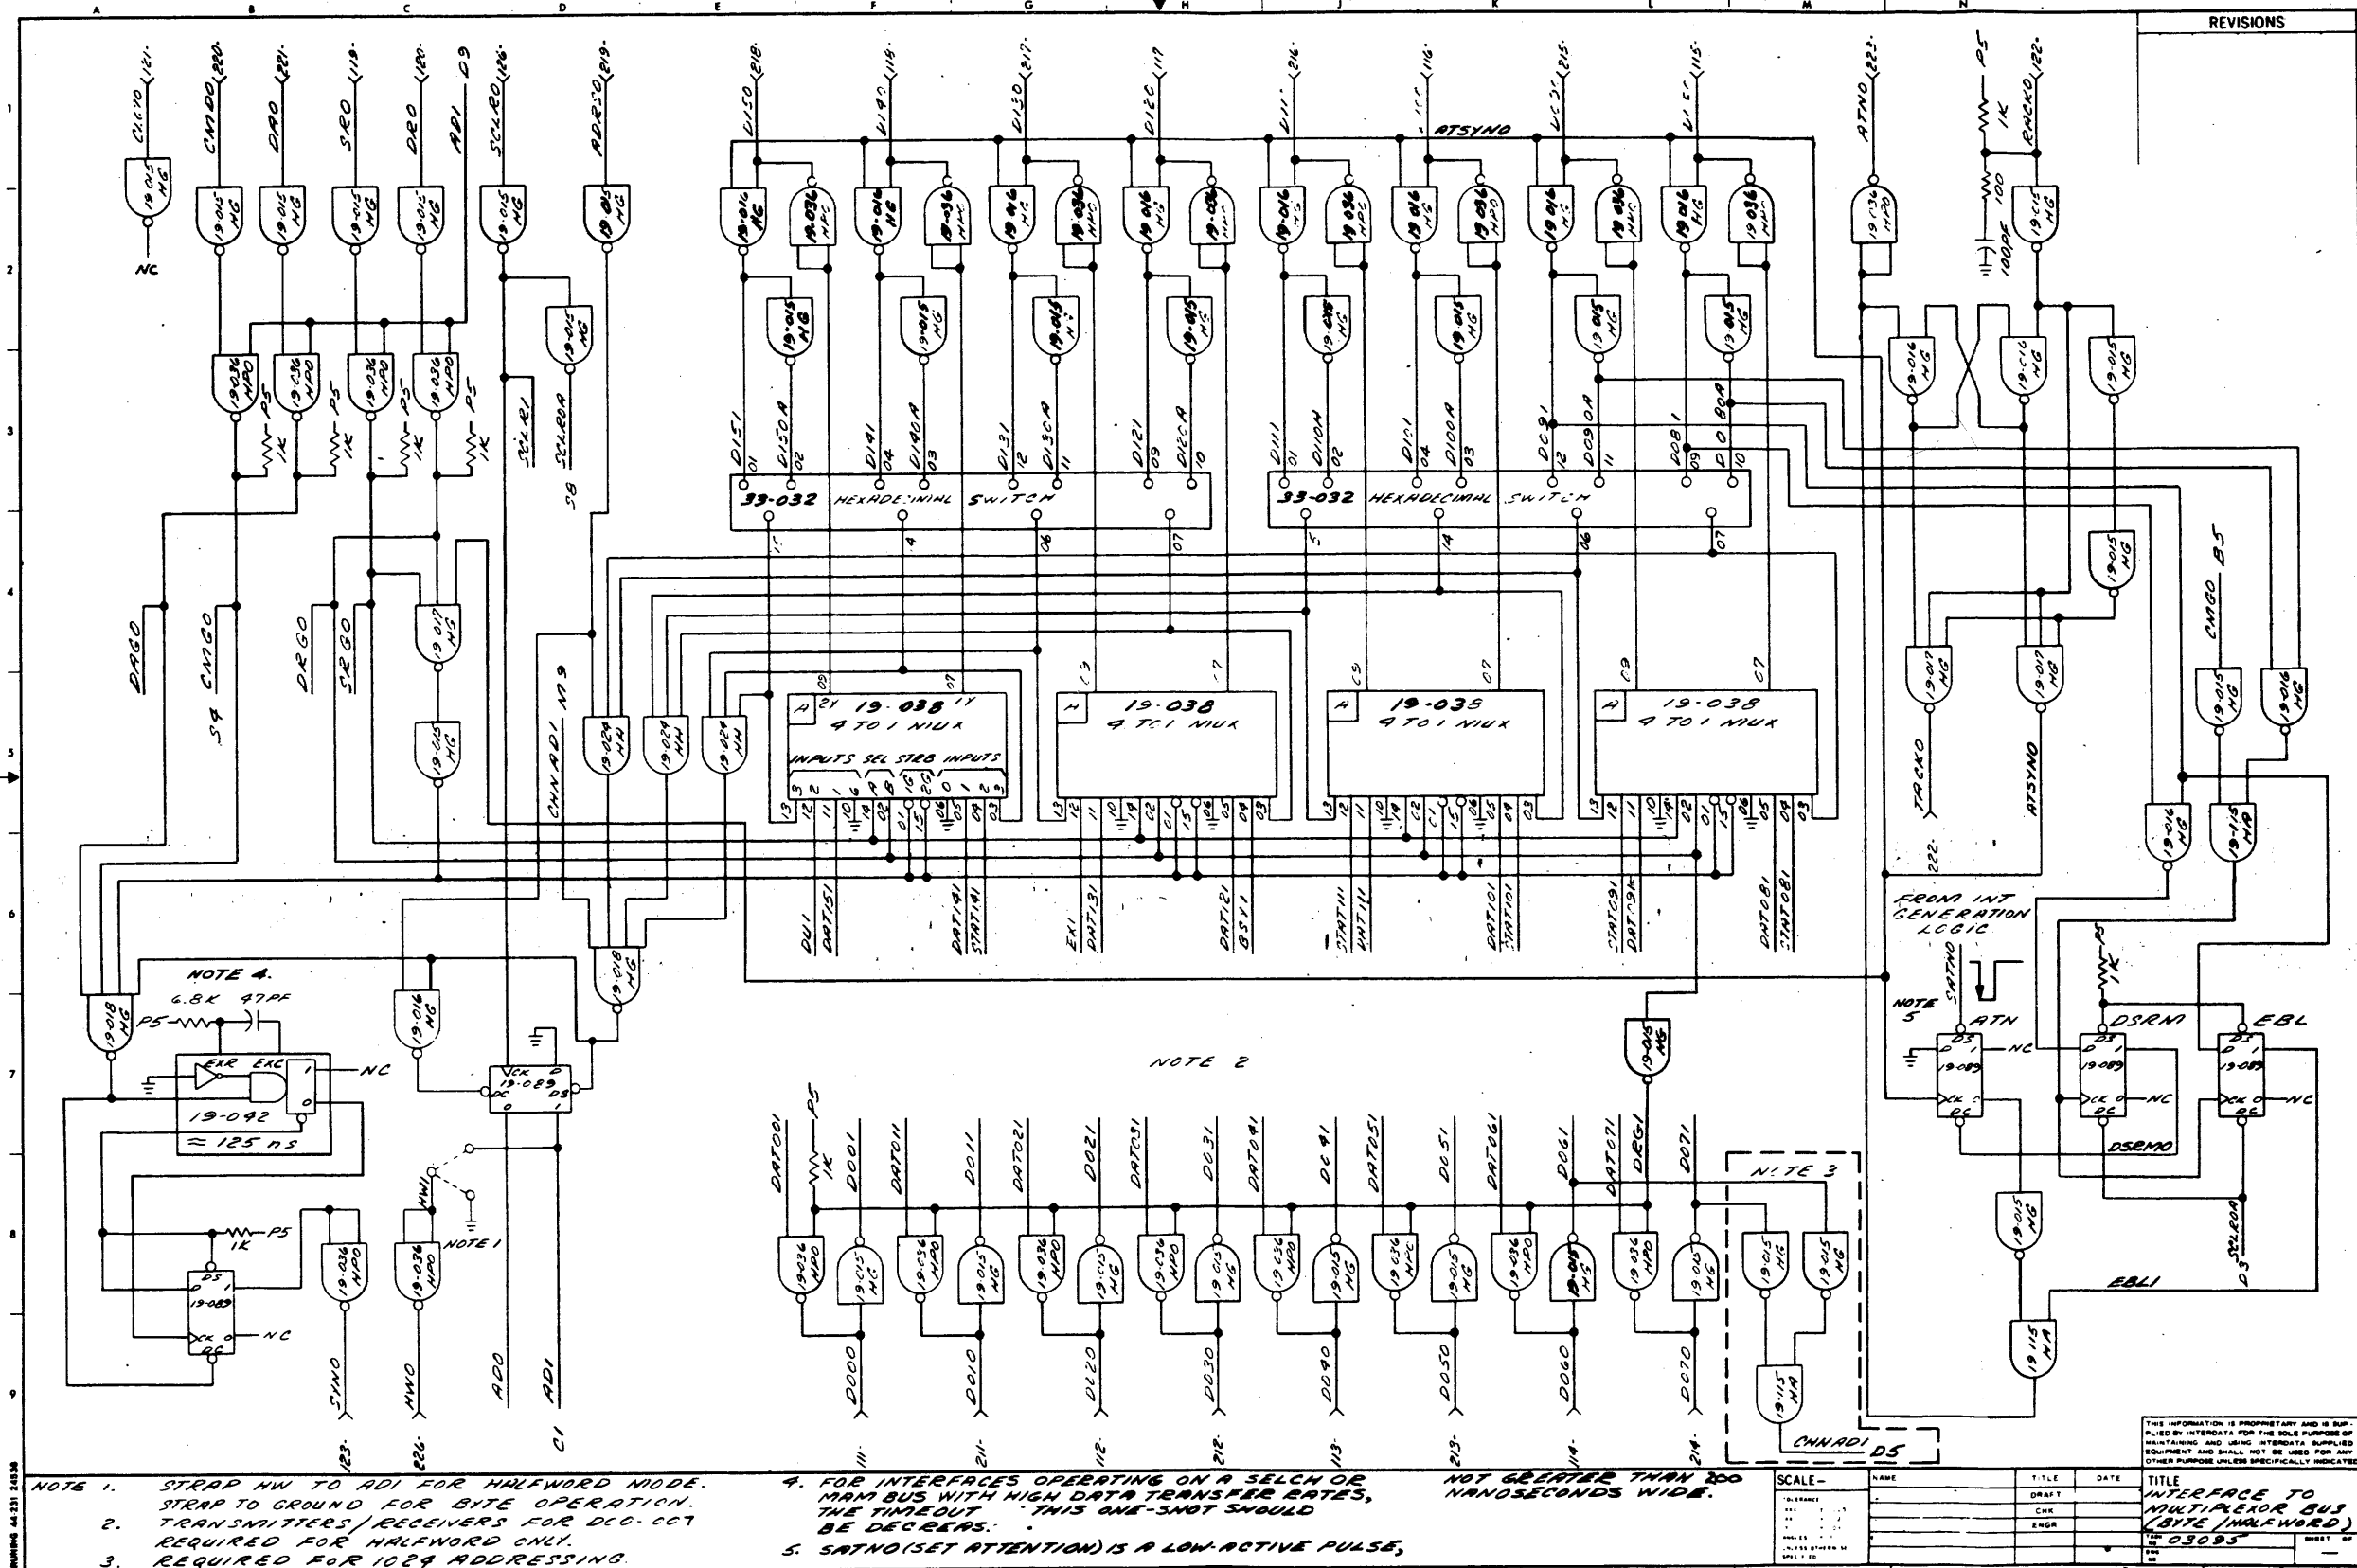
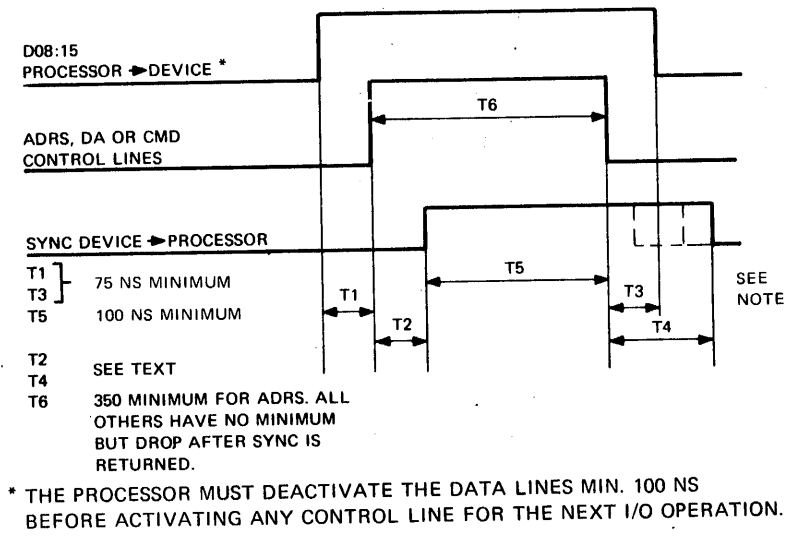

Figure 10-3. General Interface to Multiplexor Bus (Byte or Halfword Oriented)
Figure 10-4. Multiplexor Bus Output Timing
Refer to Figure 10-3 during the following description. When a device controller is addressed, the 10-bit address code is placed on the Data Lines (D060:150). The least significant 8-bits are switch selectable with Perkin-Elmer Part Number 33-032 switches. Bits D06 and D07 generate CHNAD1. If these bits are both ZERO, CHNAD1 is high. This is ANDed with the switch selected 8-bits. The resultant logic function is strobed with ADRS to set or reset the AD flip flop.
Figure 10-3 shows a complete general purpose interrupt and interrupt acknowledge logic system. When an interrupt is generated, the ATN flip-flop is set. The output from the ATN flip-flop generates an Attention signal (ATN0) to the processor. The program responds with an Acknowledge Interrupt signal, which is received by the controller as Receive Acknowledge (RACK). Since the ATN flip-flop was set prior to receiving RACK, ATSYN0 goes low, and the Transmit Acknowledge (TACK0) output is held high. Thus, the Acknowledge Interrupt signal is captured by the interrupting controller, and is prevented from propagating to the next device as Receive Acknowledge (RACK0). The ATSYN0 signal active causes the device address to be returned on the Multiplexor Bus Data Lines D080-150 when input number three is selected on the 4:1 multiplexor, and then causes a SYN to be returned to the Processor. On receiving the SYN0, the processor deactivates RACK0, causing the ATN flip-flop to reset, deactivating ATN0. The device controller must not deactivate ATN0 until the processor deactivates RACK0.
Timing for typical Output operations is shown on Figure 10-14. On the Output operation, the processor places a signal on the data lines followed by an appropriate control line signal. This stagger (T_1) varies, but it is guaranteed to be at least 75 nanoseconds. When the device controller has received the Output Byte, the SYN signal is returned to the processor, which terminates the control line signal. Realizing that T_5 is 100 nanoseconds minimum, the SYN delay T_2 should be only long enough to guarantee proper reception of the Output Byte. The control line/data line removal time (T_3) is important where single-rail to double-rail operation is used, e.g., the ADRS flip-flop of Figure 10-3. A minimum of 75 nanoseconds is guaranteed for T_3 . For SYN generation as per Figure 10-4 the control line signal is DC coupled through the gates to form the SYN signal. The SYN removal time (T_4) should be minimized. This delay should not be extended unnecessarily since the processor does not begin another Input/Output operation until SYN is removed.
It should be emphasized that the times shown on Figure 10-4 are defined for signals on the Multiplexor Bus. Within a given device controller, one signal may flow through more gates than another signal and these delays must be considered.
When the control signal is ACK, the delay (T1) includes the cumulative gate delays (see Figure 10-3) for all the device controllers between the responding device controller and the processor. This is less than the processor time-out even with the maximum limit of 255 device controllers.
Figure 10-3 illustrates a general interface to the Multiplexor Bus which may be used when designing custom device controllers, either 8-bit byte or 16-bit halfword oriented. (If an 8-bit byte oriented interface is being designed, gates connecting to D001:071 and to DAT001:071 can be eliminated.) The figure illustrates an interface with the 74H logic family; however, other logic families may be used provided they conform to the characteristics in Figure 10-2. The address straps can be hardwired by the user for any device number from X'002' to X'3FF' with the exception of X'007', which is reserved for the manually selected clock. The user can use the Gated Status Request (SRG0) or the Gated Data Request (DRG0) control lines to gate status or data from appropriate points in his logic. Data from the processor is available to the user's circuits, double rail, at the points labeled D001:151 and D000A:150A. The user can use the Gated Data Available (DAG0) and the Gated Command (CMG0) control lines to gate the data from the processor to appropriate points in his logic. The delay of the SYN0 signal should be arranged such that it is the minimum delay necessary for the custom controllers to function properly, per the Multiplexor Bus Timing Section.
Figure 10-3 shows how a byte or halfword of data may be read into the processor. When the byte-oriented device controller is addressed, AD1 is high, enabling the Data Request (DR) control line from the Processor. (The HW1 is strapped to ground for byte operation.) The DR enables the data byte onto the eight bottom Data Lines D080:150. If a halfword-oriented device controller is addressed, 16 bits are gated onto Data Lines D000:150 since the halfword input is strapped to a high AD1 output from the Address flip-flop, enabling the Halfword mode. A system requirement is that the addressed controller must respond to all control lines (i.e., Data Request) with a SYN.
Figure 10-3 shows how a byte of status may be read into the processor. When the byte or halfword oriented device controller is addressed, AD1 is high, enabling the Status Request (SR) control line from the processor. Open collector gates are used for OR tying the 4:1 multiplexor onto the eight Data Lines (D080:150).